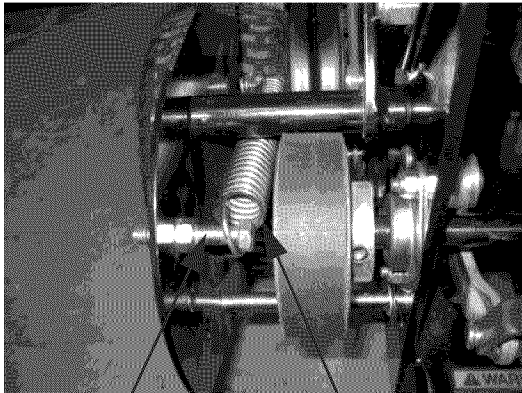

Figure 23
3. With a spring puller, pull the spring and detach it from the hex cap screw. (See Figure 23)
7. Using a spring puller, reattach the spring to the hex cap screw. (See Figure 23)